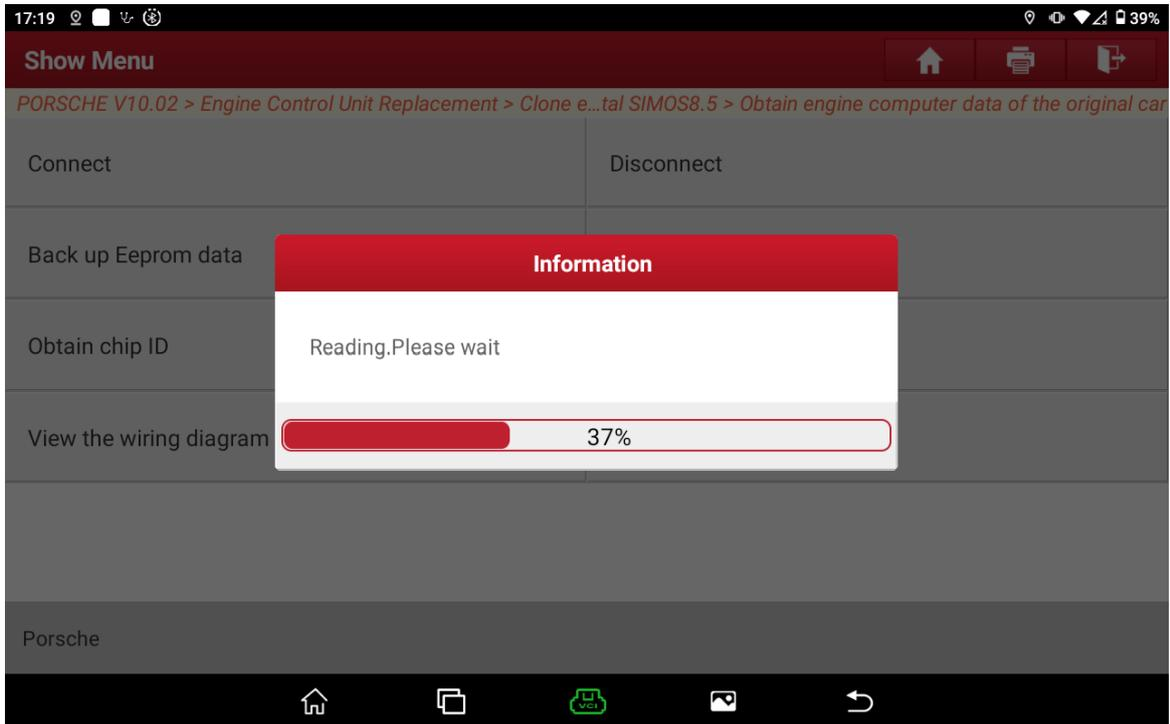
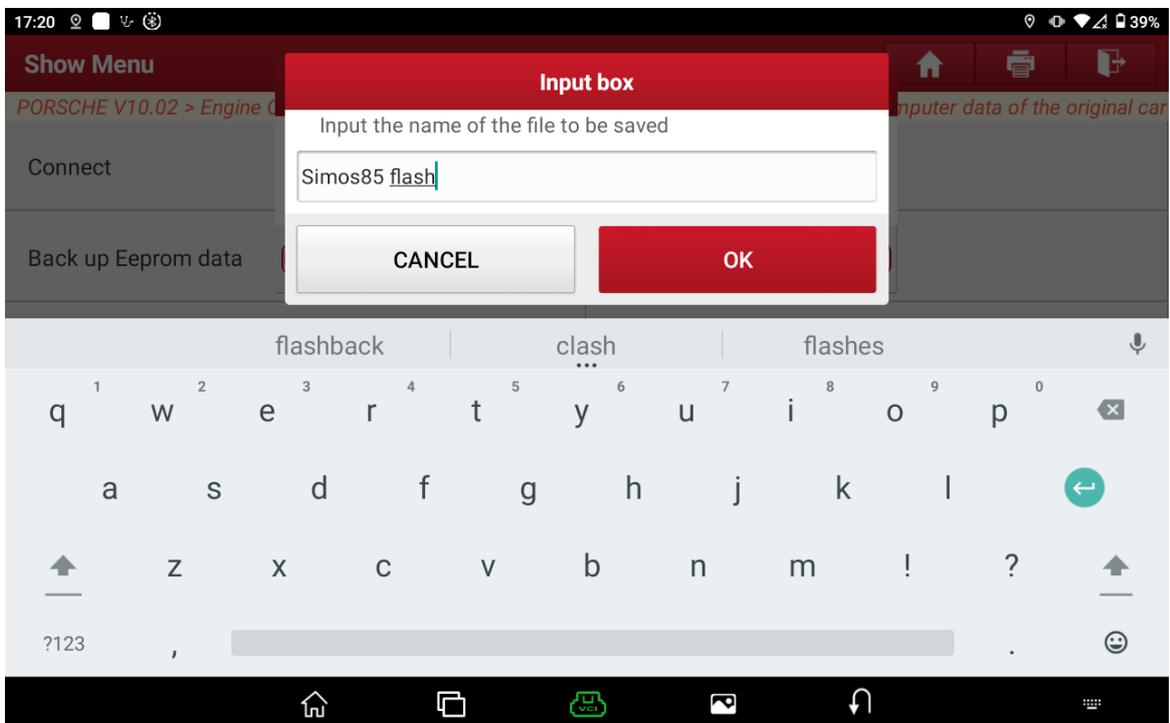
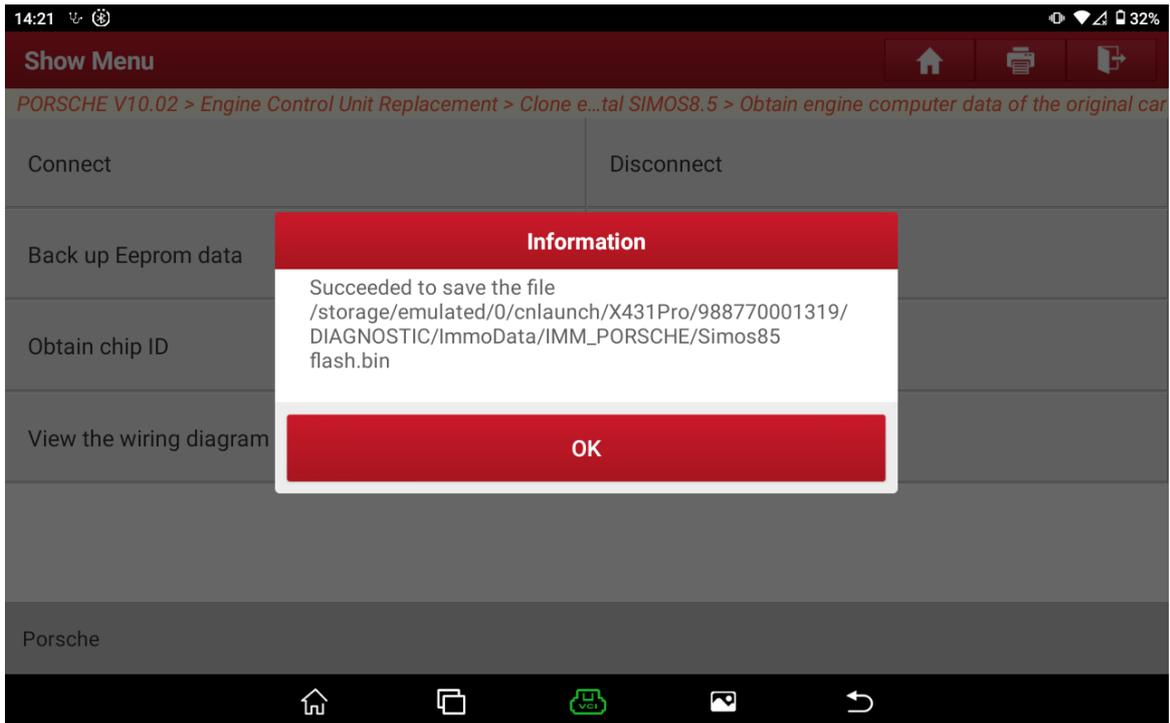

Figure 9
Figure 10
Figure 11
- Execute **【Backup Flash Data】**, input the name of the file to be saved and save the Flash data, as shown in Figure 9, Figure 10, and Figure 11, among which the Flash data is large and takes a long time. Please wait patiently.